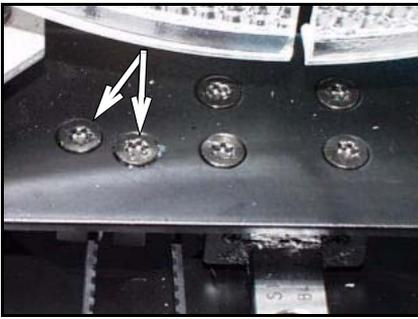

Fig. 10 Belt clamp screws
- 2 Remove the belt clamp screws. (Fig. 10)